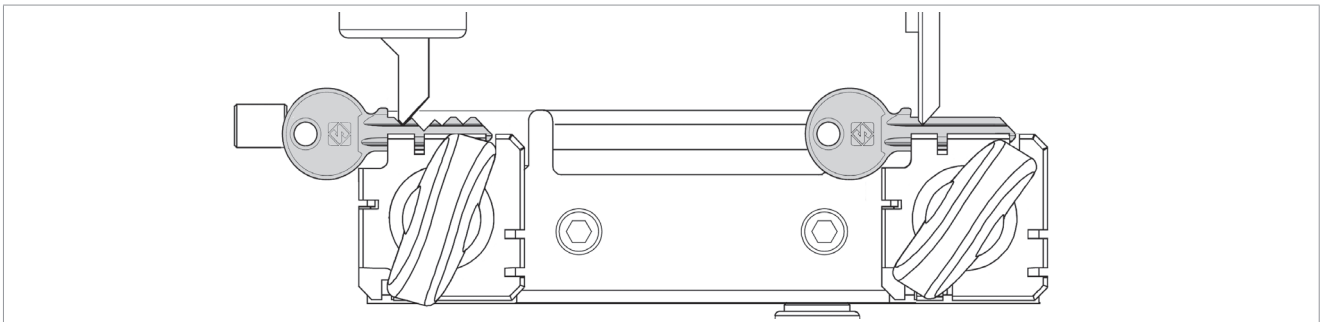

Fig. 29
- 1) Use handle (A) to take the carriage towards the tracer/cutter and hold the tracer against the cut, starting at the key stop (Fig. 29).
- 2) To make a copy of the key, move the carriage from right to left with knob (B). In case of double cuts repeat the operation in the second side of the key.
- 3) **Turn off the machine with motor switch (T), turn off main power switch (N), close the switch protection cover (N1) and check that it is NOT connected to the battery.**
- 5) Turn on the machine with switch (N) and smooth off the key edges by means of the brush (M).